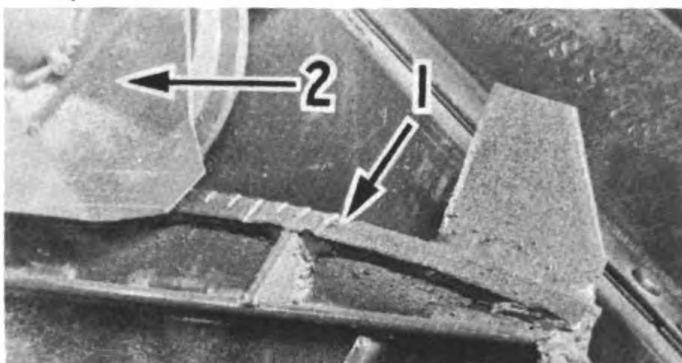

Figure 93. Floating mounting for pickup control.
The track (1) Figure 93, for the pivot shaft rollers on the operator's side is graduated. The pivot shaft roller shield (2) serves as a guide.